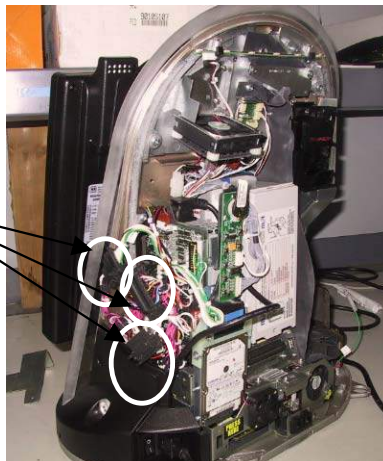

FIGURE 5 - REAR VIEW OF GAME
7. If applicable, disconnect the three black connectors (10-, 11- and 12-pin) connecting the electronics tray to the game in order to slide the tray out further (See Figure 5). If your game does not have these connectors, the harness is long enough to remove the tray.